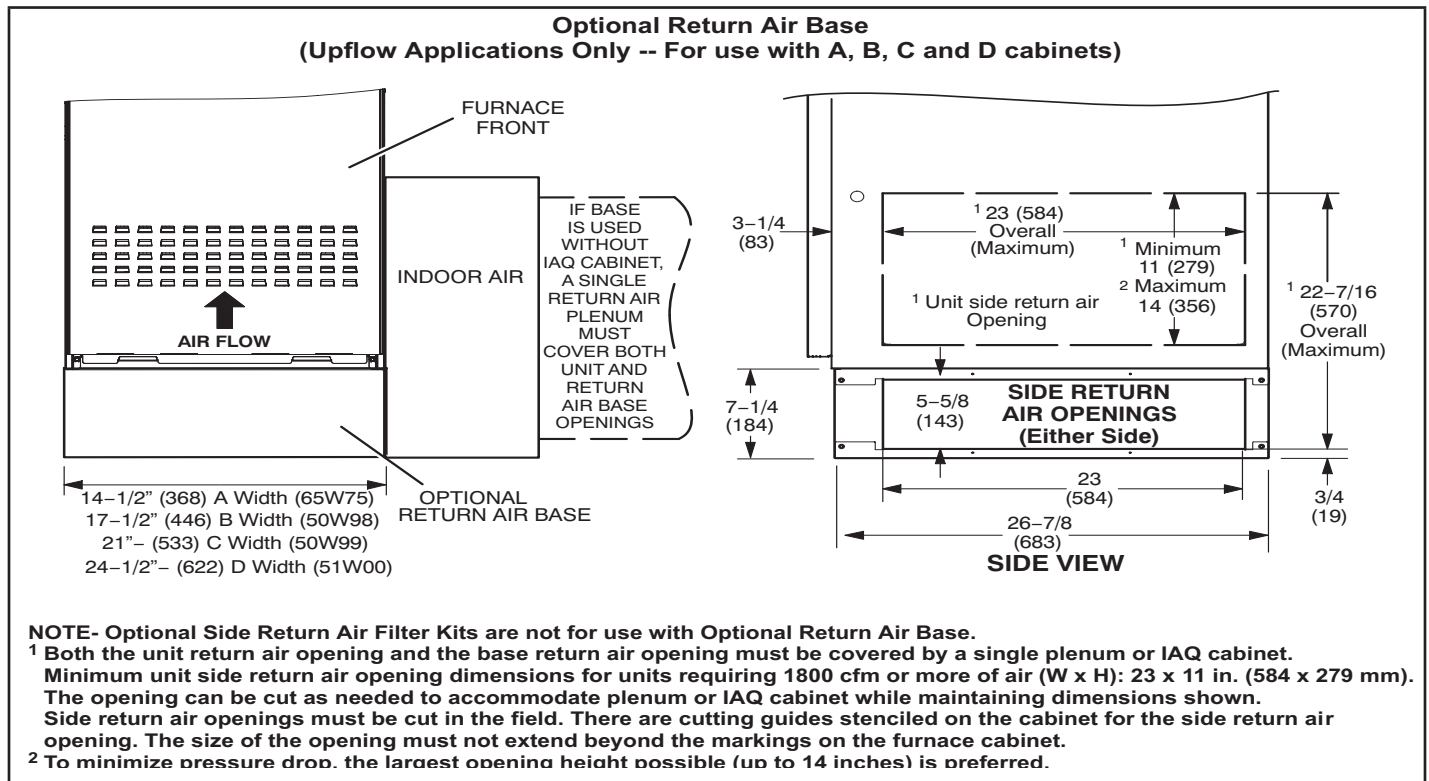

FIGURE 9
- 2 - Single side return air with optional return airbase. See FIGURE 9.